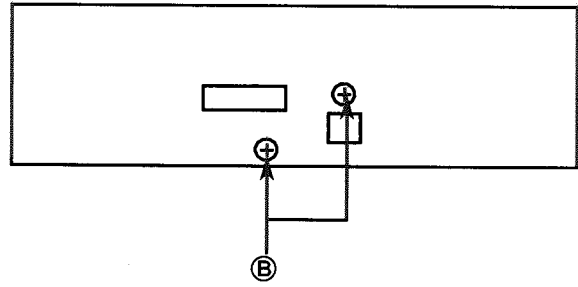

Fig. 2
- (1) The level of RF output (EFM output: amplitude of eye pattern) will be low.
- (2) The drive current required by the laser diode will be increased. In such a case, check the life of the laser diode following the flowchart below.
(3) Measurement of laser diode drive current (Fig.2)
(Fig.2)